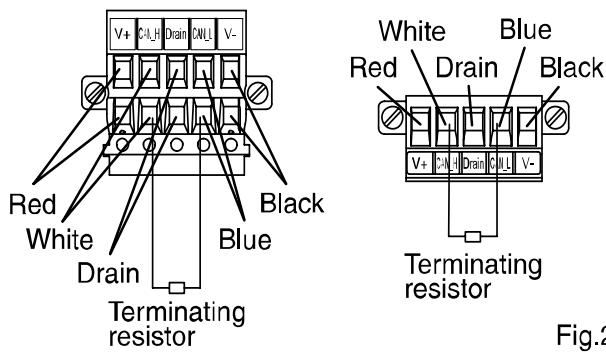

Fig.2
(2) Make sure to connect a "Terminating resistor" between "CAN\_H" and "CAN\_L" of the unit at both ends of DeviceNet system (Refer to Fig.2).